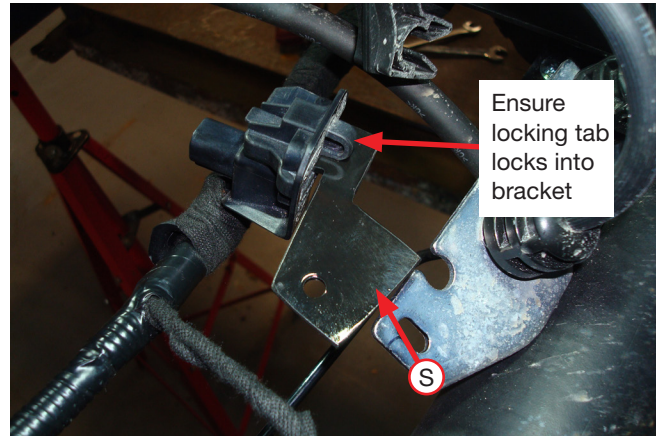
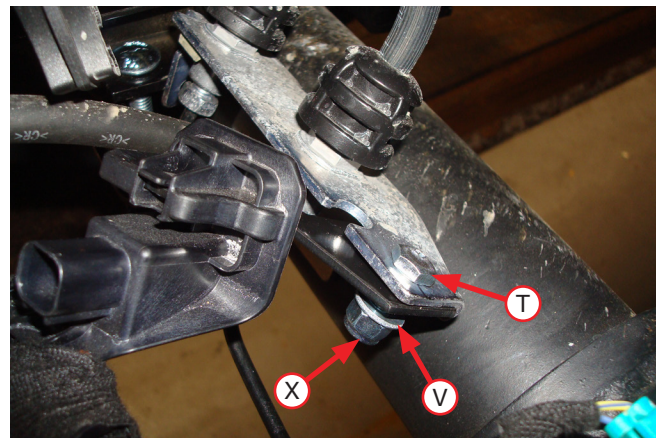

Fig. 31
Fig. 32
19. Install the right-hand wiring harness connector onto the right-hand wiring harness bracket (S), making sure the locking tab locks the connector into position (Fig. 31). Secure to the ABS/Brake line axle junction bracket with 1/4"-20 X 3/4" hex-cap screw (T), 1/4" flat washer (V), and 1/4" nylon lock nut (X) (Fig. 32). Tighten securely.